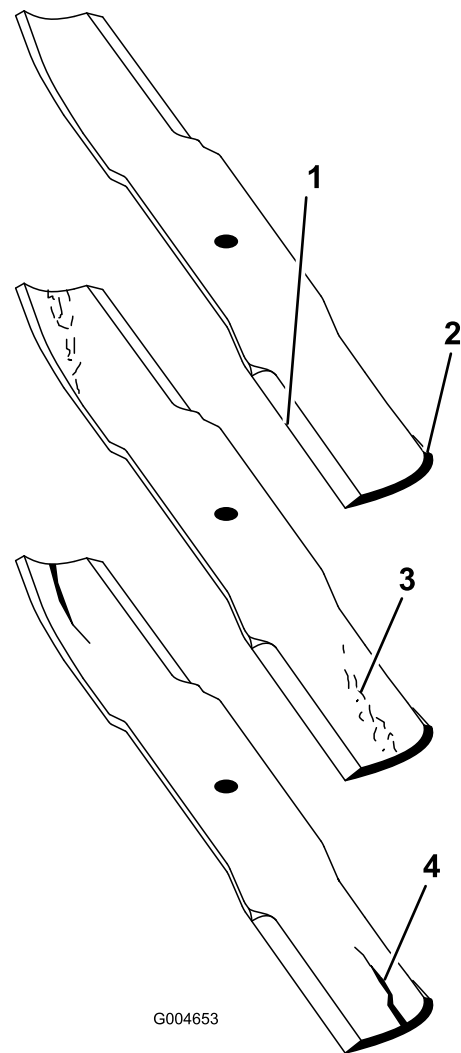

Figure 93
1. Inspect the cutting edges (Figure 93).
2. Inspect the blades, especially the curved area (Figure 93).
Note: If you notice any damage, wear, or a slot forming in this area, immediately install a new blade (Figure 93).